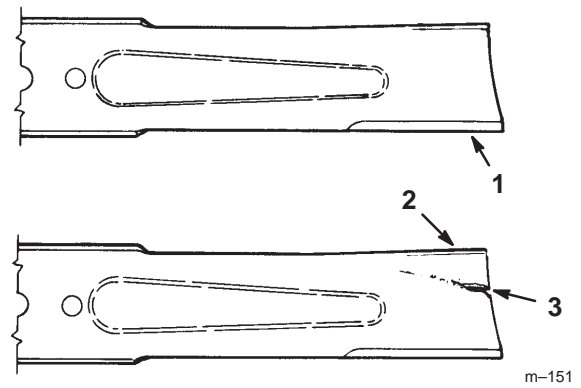

Figure 27
1. Inspect the cutting edges (Fig. 27). If the edges are not sharp or have nicks, remove and sharpen the blades. Refer to Sharpening the Blades on page 28.
2. Inspect the blades, especially the curved area (Fig. 27). If you notice any damage, wear, or a slot forming in this area (item 3 in Fig. 27), immediately install a new blade.